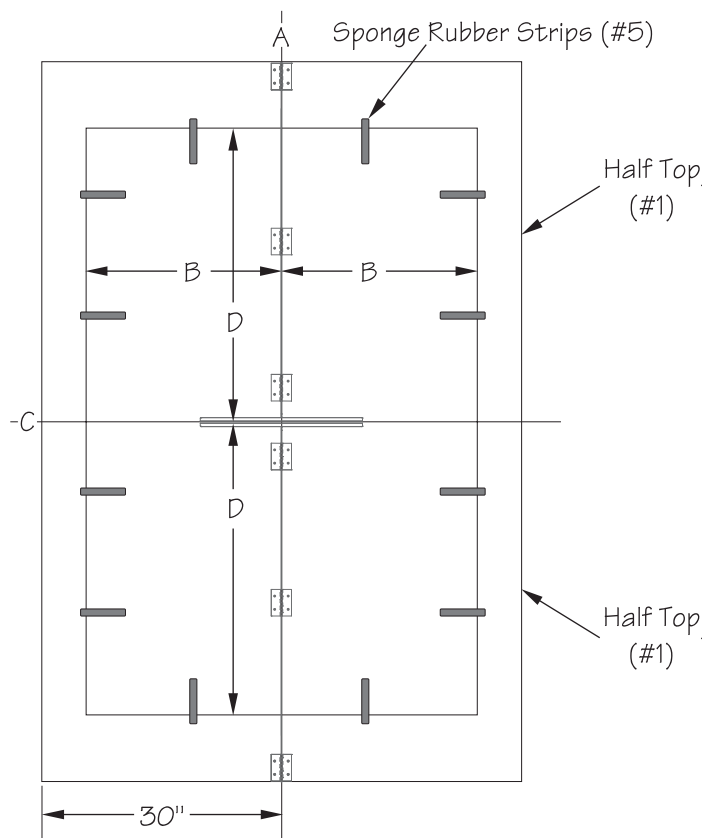

Figure 3
1. Determine the placement of sponge rubber strips #5 on the bottom of half tops as follows (Use Figure 3):
- Divide the width of your pool table in half and mark the bottom of the conversion top this amount (B). Measure from center line (A) out toward both sides. These mark the sides of your pool table.
- Divide length of pool table in half and mark the bottom of the conversion top this amount (D). Measure from center line (C) (where two half tops touch) out towards both ends. These mark the ends of your pool table.